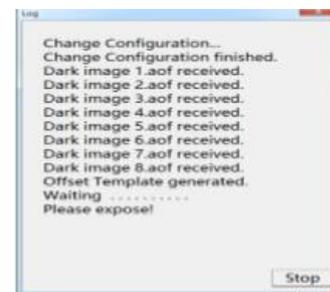

Figure 3-21
c) A pop up template generation dialog. It takes about 10 minutes, as shown in Figure 3-21.